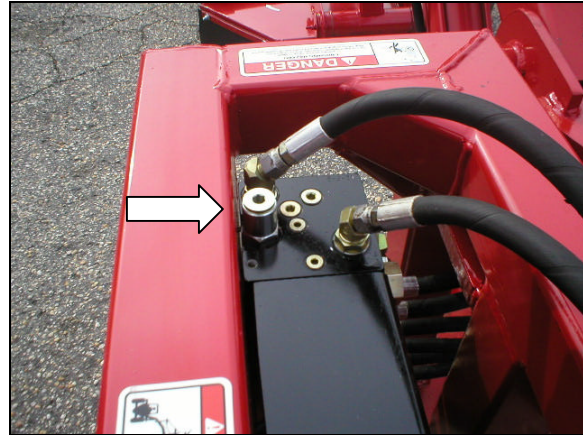

Figure 6
The correct pressure setting for the main relief (S) is 2000 psi. See Figure 6 for location.